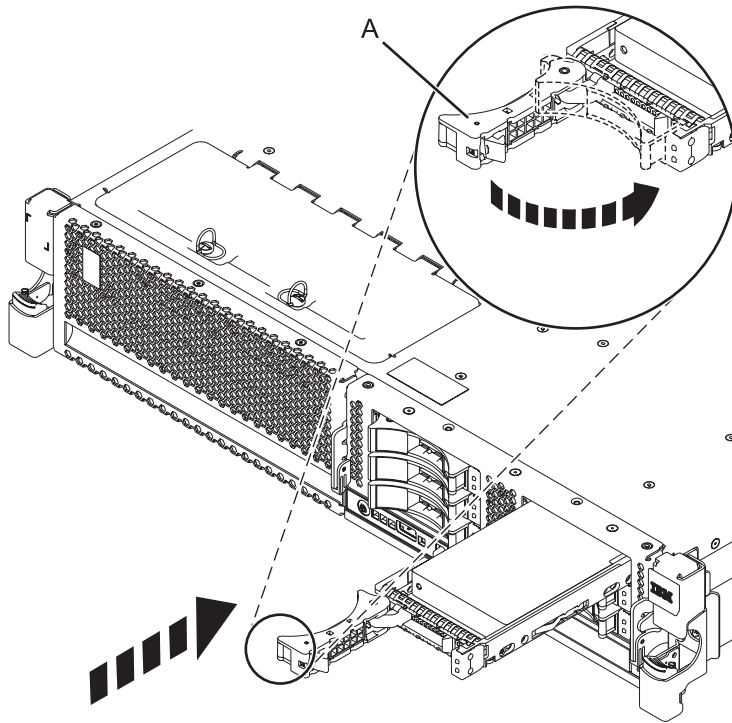

Figure 34. Installing a disk drive in the system
4. Slide the disk drive or solid-state drive all the way into the system or an expansion unit, and push the disk drive or solid-state drive handle (A) in until it locks. See Figure 34 on page 55.